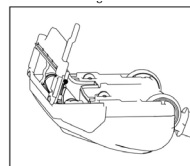

Fig. 4
6. Reinstall the bottom plate by aligning the front edge of the bottom plate into the notches inside the nozzle housing (Fig. 4).